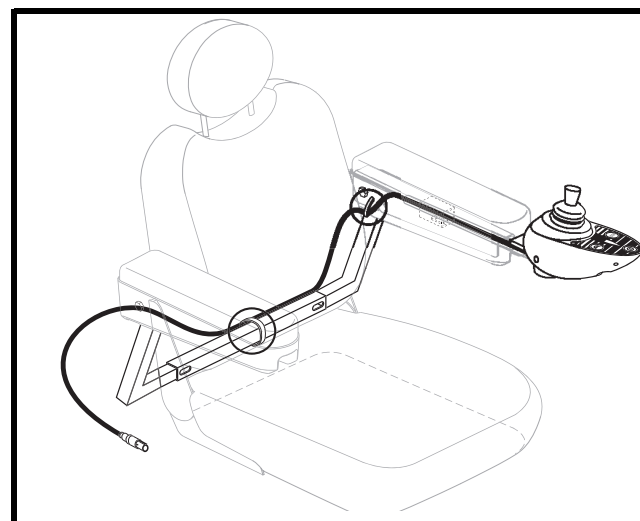

Figure 13. Controller Harness Routing on a Contour Seat
8. Secure the controller harness to the armrest receiver with one or more wire ties. See figure 13.